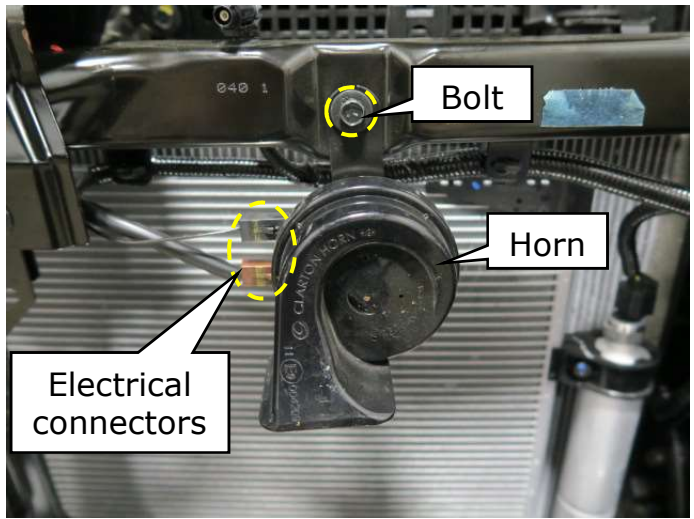

Figure 7
10. Remove the horn assembly. (Figure 7)
- Disconnect the (2) electrical connectors from the horn